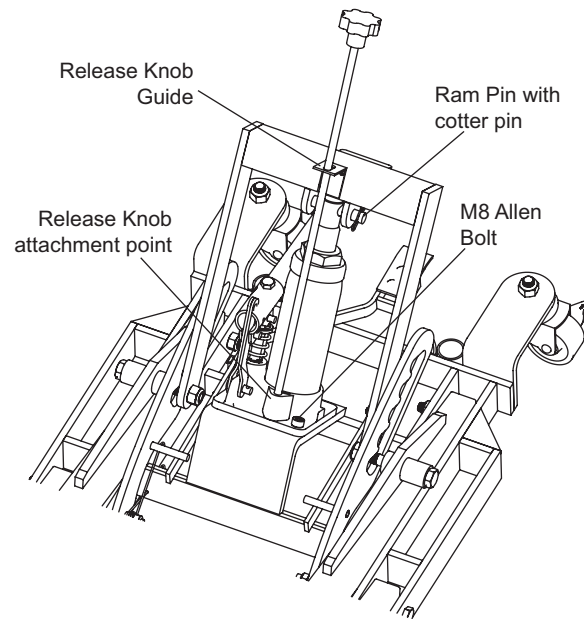
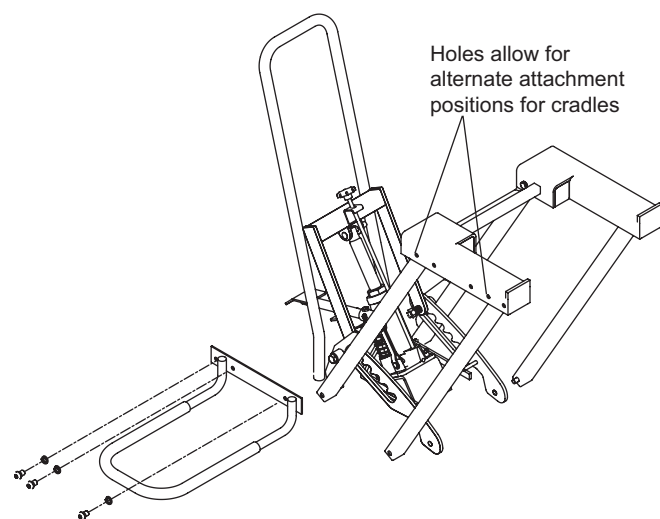

Figure 2 - Hydraulic Unit assembly
Figure 3 - Wheel Cradle assembly
1. Install Hydraulic Unit on receiver and secure with provided M8 x 1.25 bolts (ref. Figure 2).
5. Install Positioning Handle into frame and secure using the provided pins (2).
6. Attach two Wheel Brackets to sides of Lift Platform (ref. Figure 3).